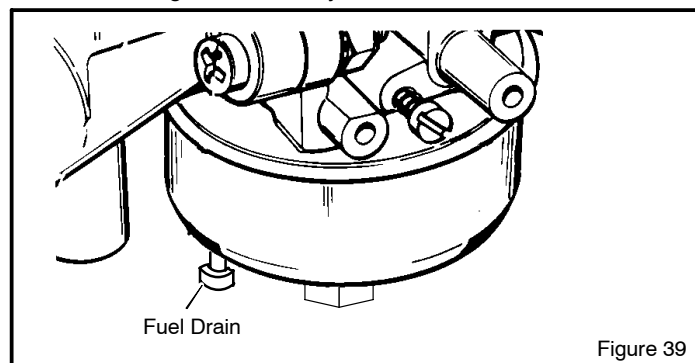

Figure 39
3. Do not leave fuel in the fuel tank or the carburetor. The fuel can damage the function of the fuel system. Some models have a **fuel drain** (Figure 39). Hold a cloth under the **fuel drain**. Push the **fuel drain** until the carburetor is empty.